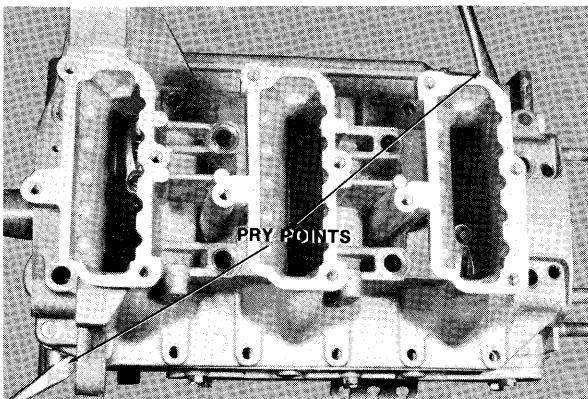

Figure 6—Prying Crankcase Cover
- F. Pry crankcase cover from cylinder using large screwdriver at each pry point as shown in figure 6.